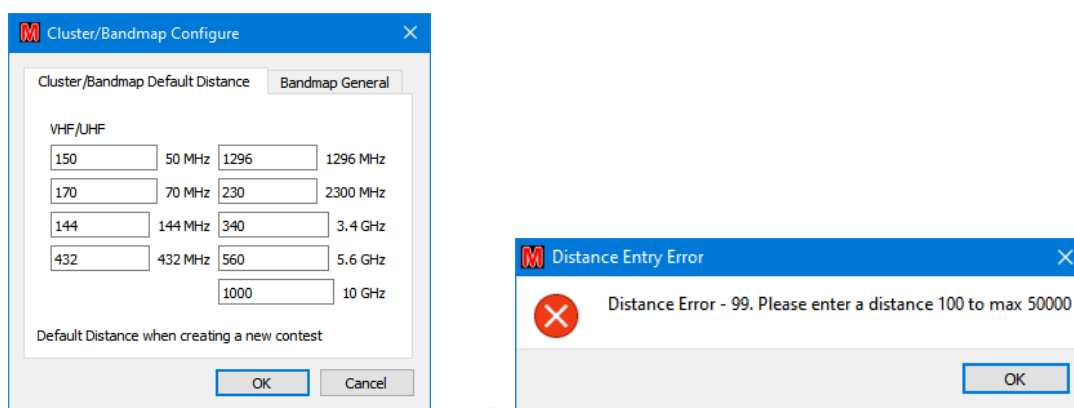

Figure 119 – Default distances for filters
The defaults for the distance filter are established using “**Cluster/Bandmap Filter Configuration**” under the Tools menu as shown in Figure 119 (1)¹²⁴. The distance must be in the range 100 to 50000 (!) otherwise an error message is produced Figure 119 (2).